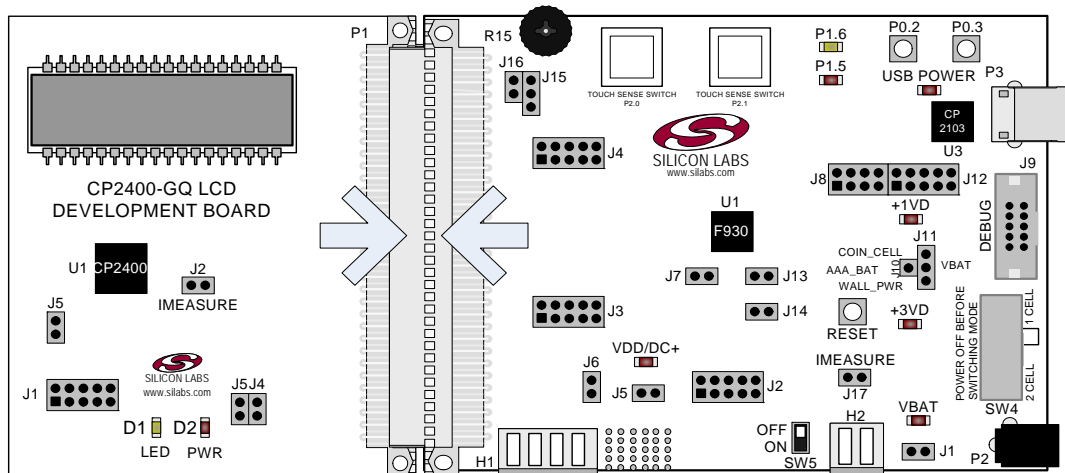

Figure 8. CP2400/1 LCD Development Board Attachment
1. Connect the LCD development board to the F930 target board as shown in Figure 8.